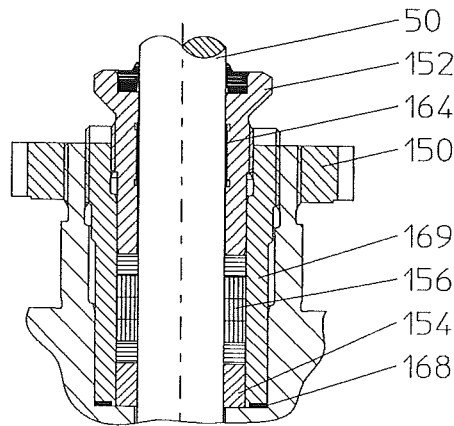

Fig. 1 -Stuffing box package- Detail X
- Unscrew stuffing box screw (152)
- See also under **Fig. 1** on page 7
- Loosen screw-connection between body (1) and top flange (2).
- Take-off top flange (2).
- The plug (26) is eventually taken off together with the top flange (2). Pull plug (26) out of the top flange (2).
- **Attention ! Do not bend the spindle (50)!**
- Remove packing set (156) and bottom ring (154).